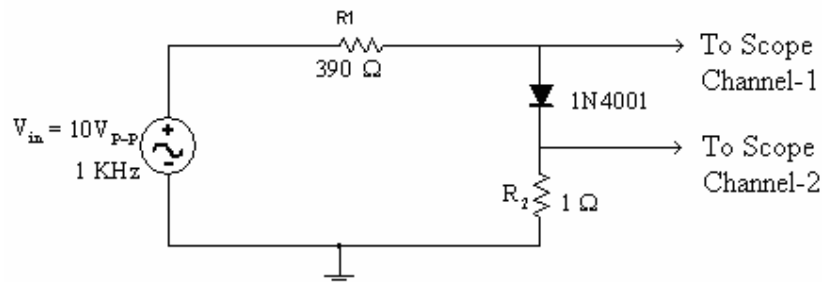

Fig.5: Measurement of I-V Characteristics using Oscilloscope
12. To obtain the I-V characteristics of the diode using the oscilloscope, connect the circuit shown in Figure 5 below. Set the function generator to 10 V_{P-P}, 1KHz sinusoid input signal.